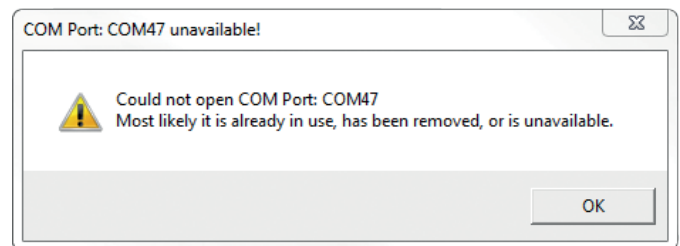
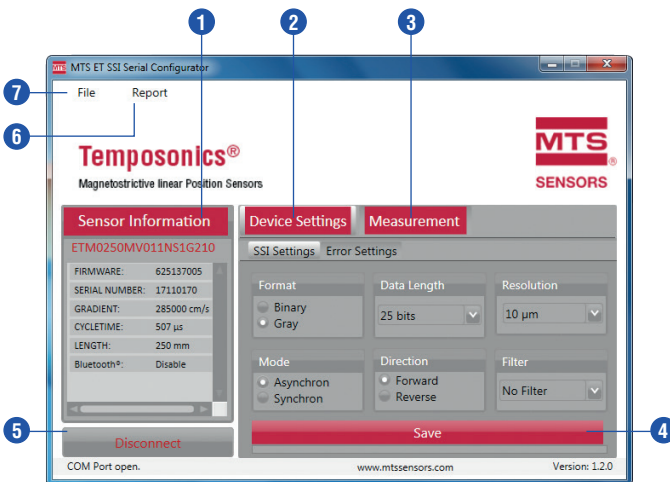

Fig. 27: Error message COM Port is not available
Fig. 29: MTS ET SSI Serial Configurator, SSI Settings
After starting the program MTS ET SSI Serial Configurator the software connects to the last selected COM Port and the user interface opens (Fig. 29). If the COM Port is not available an error message appears (Fig. 27).
The application will automatically restart and the user interface opens (Fig. 29).
- 1 **Sensor Information** contains the invariable sensor parameters, which were read in automatically when the sensor is connected (Fig. 29).
- 2 In the **Device Settings** menu the configurable parameters (SSI Settings, Error Settings) of the sensor can be set (Fig. 29).
- 3 The **Measurement** menu shows the current position of the magnet (Fig. 29).
- 4 The **Save** button saves any parameter changes you have made. After that the software restarts for the changes to take effect. The function **Measurement** 3 will then be available again (Fig. 29).
- 5 The button **Disconnect** breaks the connection to the COM Port and closes the software (Fig. 29).
- 6 By clicking **Report** a report document is generated to provide sensor information (Fig. 29).
- 7 The **File** menu allows the following settings (Fig. 29):
### SSI Settings (Fig. 29)